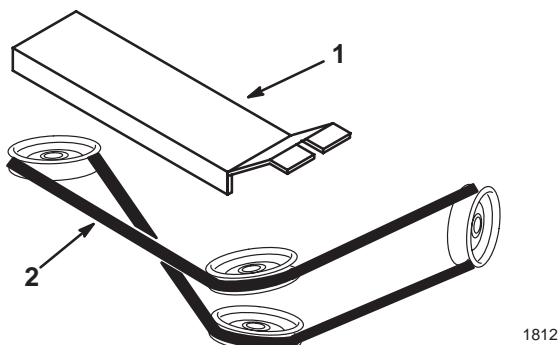

Figure 22
1. Remove the belt covers and note the belt routing (Fig. 22).
2. Remove the worn drive belt (Fig. 22).
3. Install the new belt and belt covers as outlined in Installing the Blower on page 7 (Fig. 22).